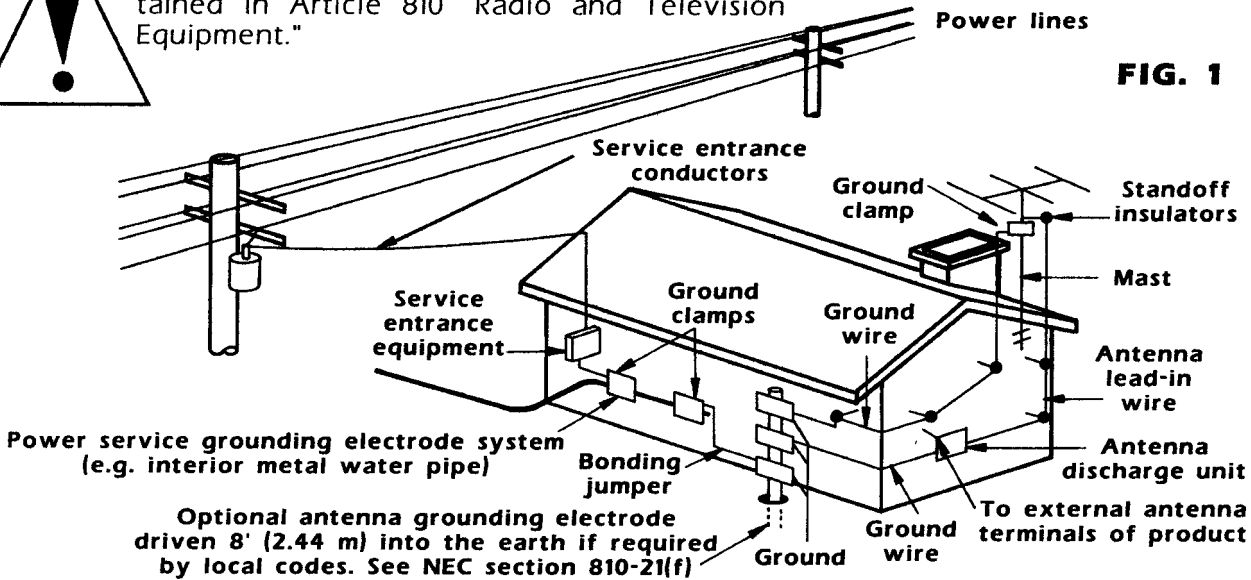

FIG. 1
1. Use #10 AWG (2.6 mm) copper, #8 AWG (3.3 mm) aluminum, #17 AWG (1.2 mm) copper-clad steel or bronze wire, or larger, as a ground wire. Use a 0.625" (16 mm) ground rod 8' (2.4 m) minimum into ground. (See Fig. 1)
2. Secure antenna lead-in and ground wires to house with stand off insulators spaced from 4'-6' (1.22-1.83 m) apart. (See Fig. 1)
3. Mount antenna discharge unit as close as possible to where lead-in enters house. (See Fig. 1)
4. Use jumper wire not smaller than #6 AWG (4.1 mm) copper, or equivalent, when a separate antenna-grounding electrode is used. See NEC section 810-21(i). (See Fig. 1)